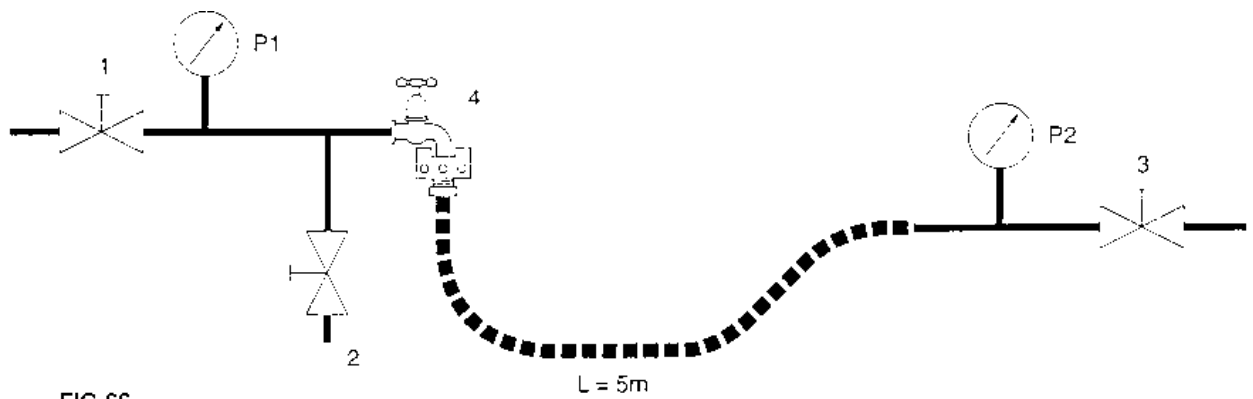

FIG 66
- (1) Mount the device in the test system in its normal working position. (Reference Figure 66).
- (2) Ensure all valves are closed initially and then open valves '1', '4' and '3' and purge the system of air.
- (3) Close valve '3'.
- (4) Raise the pressure to the system to $10 \text{ bar} \pm 1 \text{ bar}$. Close valve '1'.
- (5) Hold for 10 ± 1 minutes and then open valve '2'.